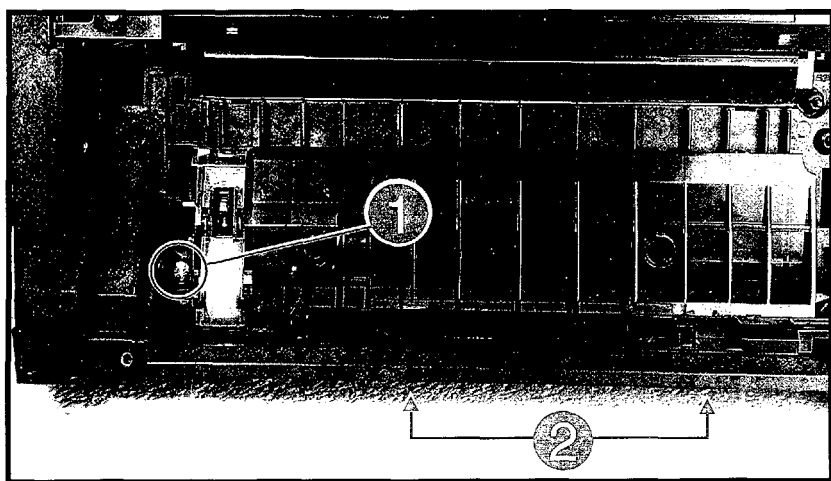

Figure 6-24 Removing the Paper Guide/Roller Assembly
**Note** It is not necessary to remove the Printer Cover, although the front alignment tabs (Figure 6-24, callout 2) are more easily accessible with the cover removed.
1. Remove the (1) self-tapping screw on the left side of the assembly (Figure 6-24, callout 1).
2. Lift the rear of the assembly while pushing down at the front, and pull it to the rear slightly (this releases the tabs - Figure 6-24, callout 2).